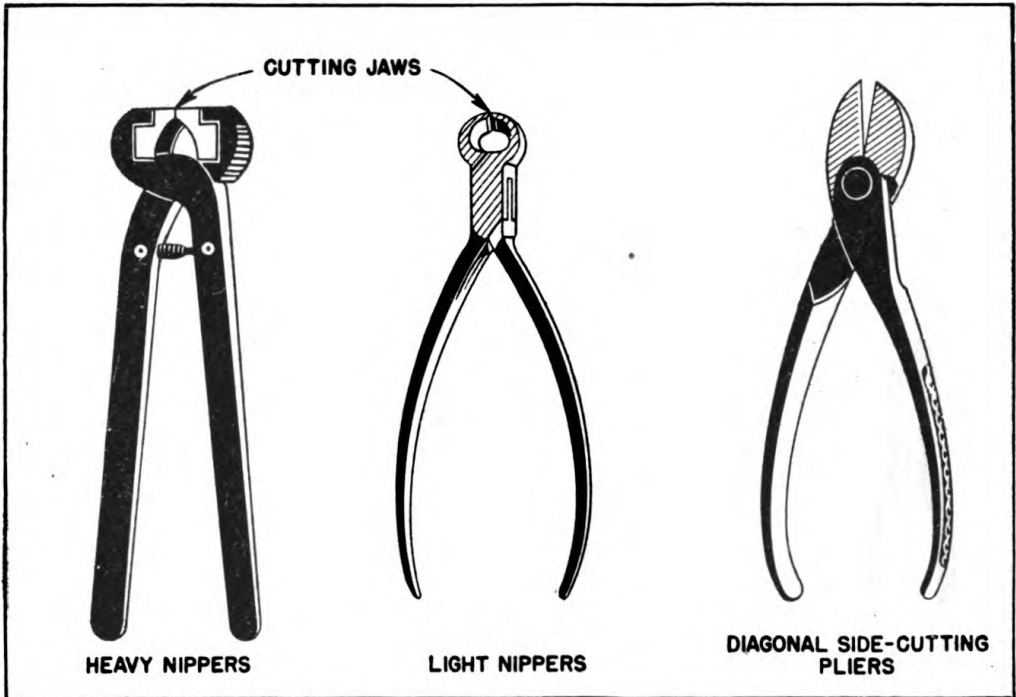

FIGURE 10.—Nippers.
(3) *Nippers*.—(a) Nippers (fig. 10) are used strictly as cutting tools for wire, light metal bars, bolts, etc., especially for cutting them off flush with a surface. They exert more force than pliers and should never be used as holding tools.